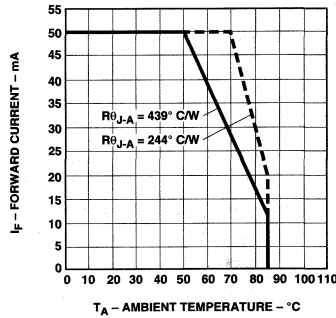

Figure 4. Maximum Forward Current vs. Ambient Temperature. Derating Based on  $T_j$  Max = 95°C.
1. Derate linearly as shown in Figure 4.